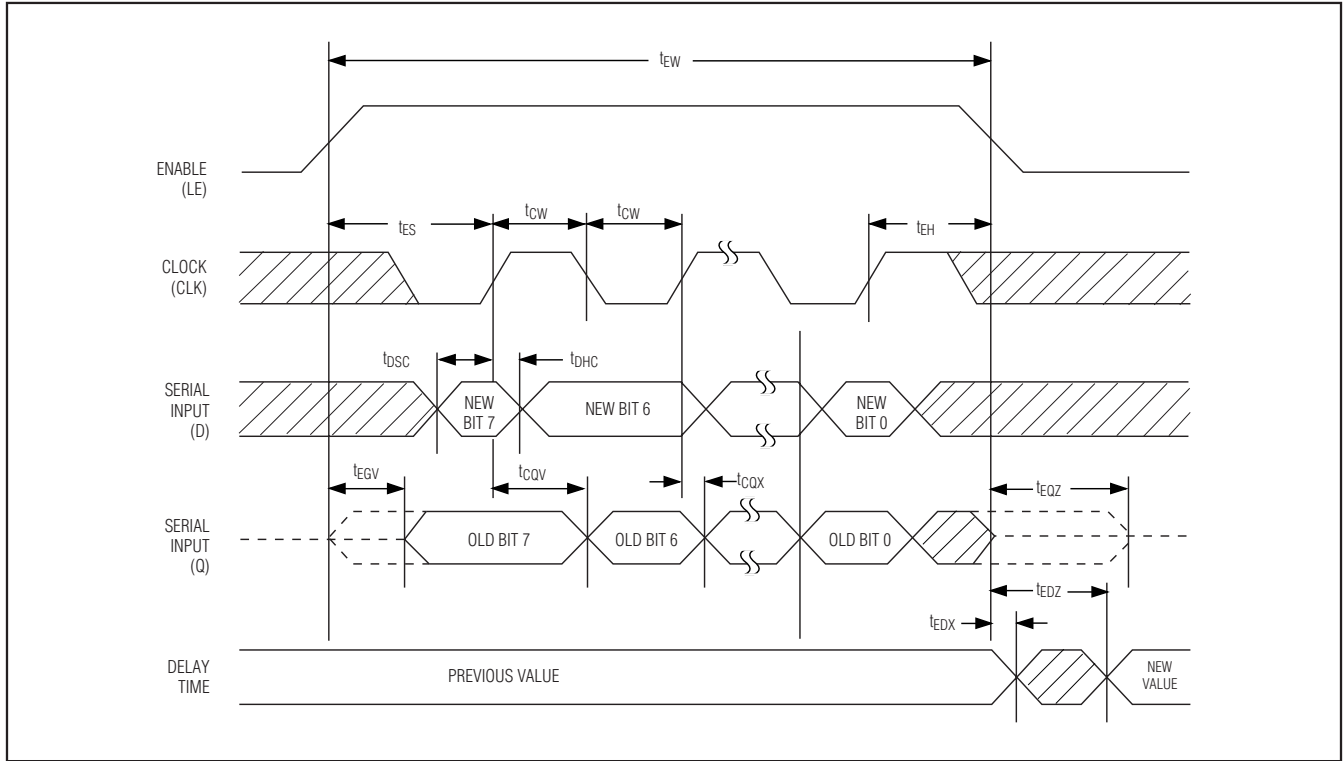

Figure 6. Serial Interface Timing Diagram
The 3-wire serial interface is enabled by connecting \bar{P}/S to V_{CC} . Serial mode operates similar to a shift register. When LE is set at a high logic level, it enables the register and CLK clocks the data, D, into the register one bit at a time starting with the most significant bit. After all 8 bits are shifted into the DS1123L, LE is pulled low to end the data transfer and activate the new value. A settling time (t_{EDV}) is required after LE is pulled low before the signal delay meets its specified accuracy. A timing diagram for the serial interface is shown in Figure 6. The 3-wire interface also has an output (Q) that can be used to cascade multiple 3-wire devices, and it can be used to read the current value of the devices on the bus.